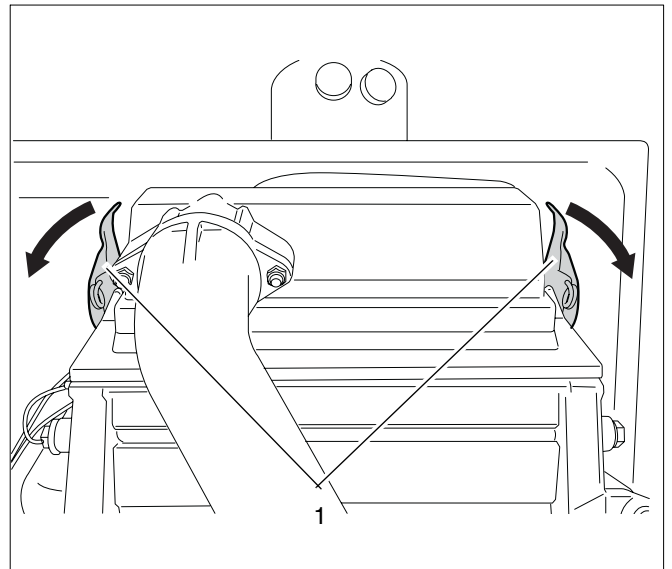

Fig. 119 Loosening the retaining clips
- Pull both retaining clips (see fig. 119, pos. 1) on the burner cover to open them and remove the burner cover with the fan unit and the gas control valve.